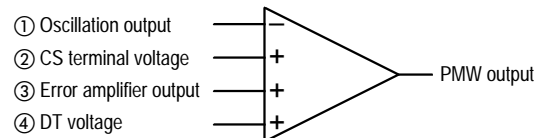

Fig. 4
The PWM comparator has 4 input terminals. (Fig. 4) The oscillator output ① is compared with the CS terminal voltage ②, and the error amplifier voltage ③, then, the lower voltage between ② and ③ is preferred.